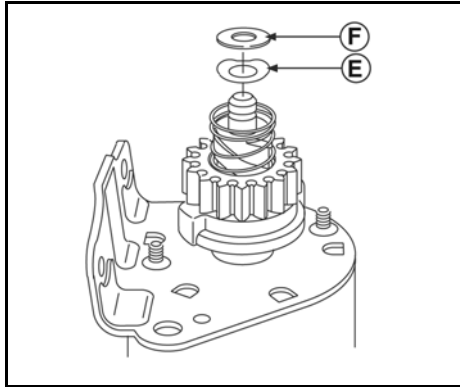

Figure 28
5. Align one of the slots (G, Figure 28) of C-Ring Installer #19435 with open end of C-ring (H).